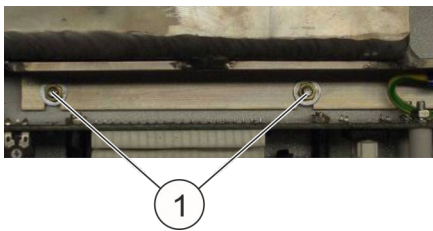

Fig. 51: Tank fastening
11. ➤ Remove the M3 nuts (Fig. 51/1) of the tank fastening with a 5.5 mm socket wrench.